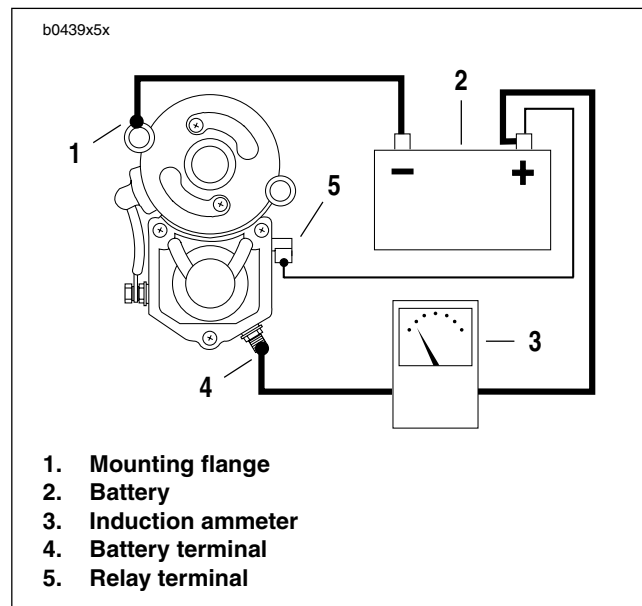

Figure 1-8. Free Running Current Draw Test
2. Connect a heavy jumper cable (6 gauge minimum) to starter mounting flange as shown in Figure 1-8.